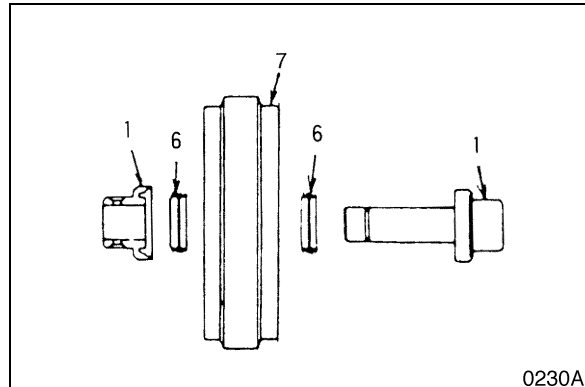

Figure 26
4. Install group seal (6, Figure 26) inside the idler (7) and bearing (1).